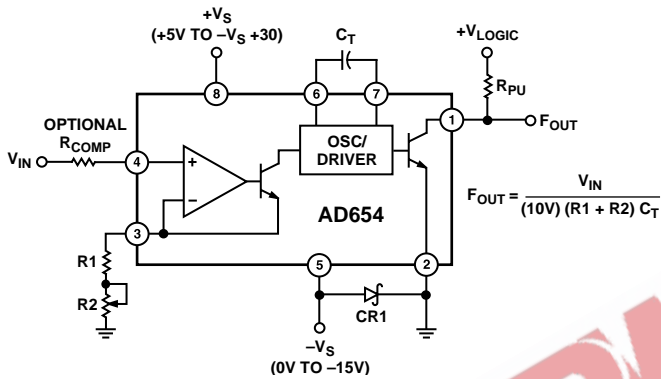
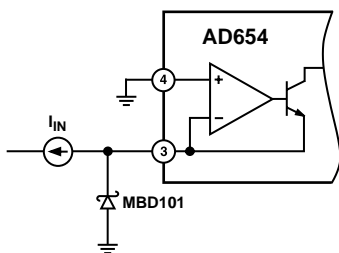

Figure 1. Standard V-F Connection for Positive Input Voltages
Figure 5. Input Protection
The AD654's block diagram appears in Figure 1. A versatile operational amplifier serves as the input stage; its purpose is to convert and scale the input voltage signal to a drive current in the NPN follower. Optimum performance is achieved when, at the full-scale input voltage, a 1 mA drive current is delivered to the current-to-frequency converter (an astable multivibrator). The drive current provides both the bias levels and the charging current to the externally connected timing capacitor. This "adaptive" bias scheme allows the oscillator to provide low nonlinearity over the entire current input range of 100 nA to 2 mA. The square wave oscillator output goes to the output driver which provides a floating base drive to the NPN power transistor. This floating drive allows the logic interface to be referenced to a level other than  $-V_S$ .
In the connection scheme of Figure 1, the input amplifier presents a very high (250 MΩ) impedance to the input voltage, which is converted into the proper drive current by the scaling resistors at Pin 3. Resistors R1 and R2 are selected to provide a 1 mA full-scale current with enough trim range to accommodate the AD654's 10% FS error and the components' tolerances. Full-scale currents other than 1 mA can be chosen, but linearity will be reduced; 2 mA is the maximum allowable drive. The AD654's positive input voltage range spans from  $-V_S$  (ground in sink supply operation) to four volts below the positive supply. Power supply rejection degrades as the input exceeds  $(+V_S - 3.75 \text{ V})$  and at  $(+V_S - 3.5 \text{ V})$  the output frequency goes to zero.
As indicated by the scaling relationship in Figure 1, a 0.01 μF timing capacitor will give a 10 kHz full-scale frequency, and 0.001 μF will give 100 kHz with a 1 mA drive current. Good V/F linearity requires the use of a capacitor with low dielectric absorption (DA), while the most stable operation over temperature calls for a component having a small tempco. Polystyrene, polypropylene, or Teflon\* capacitors are preferred for tempco and dielectric absorption; other types will degrade linearity. The capacitor should be wired very close to the AD654. In Figure 1, Schottky diode CR1 (MBD101) prevents logic common from dropping more than 500 mV below  $-V_S$ . This diode is not required if  $-V_S$  is equal to logic common.
The AD654 was designed to be used with a minimum of additional hardware. However, the successful application of a precision IC involves a good understanding of possible pitfalls and the use of suitable precautions. Thus  $+V_{IN}$  and  $R_T$  pins should not be driven more than 300 mV below  $-V_S$ . Likewise, Logic Common should not drop more than 500 mV below  $-V_S$ . This would cause internal junctions to conduct, possibly damaging the IC. In addition to the diode shown in Figures 1 and 2 protecting Logic Common, a second Schottky diode (MBD101) can protect the AD654's inputs from "below  $-V_S$ " inputs as shown in Figure 5. It is also desirable not to drive  $+V_{IN}$  and  $R_T$  above  $+V_S$ . In operation, the converter will exhibit a zero output for inputs above  $(+V_S - 3.5 V)$ . Also, control currents above 2 mA will increase nonlinearity.